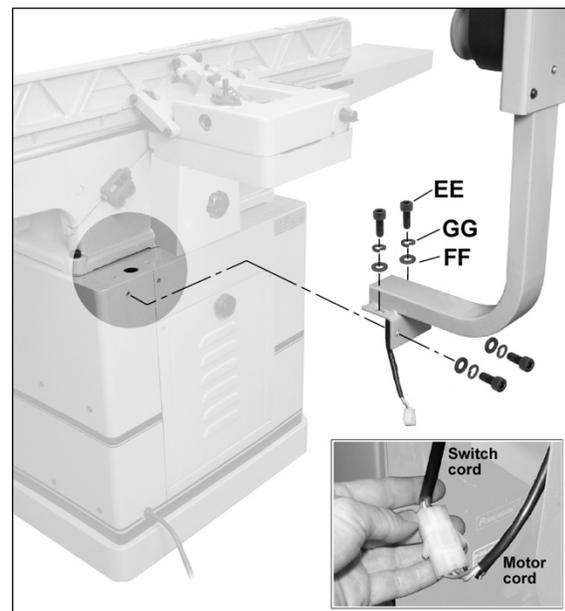

Figure 10
Refer to Figure 10.
2. Secure the switch arm with four *5/16"-18 x 3/4" socket head cap screws (EE)*, four *5/16" lock washers (GG)*, and four *5/16" flat washers (FF)*, using a 6mm hex wrench.
3. Open the stand door and join the connectors of the switch cord and motor cord, as shown in the detail in Figure 10.